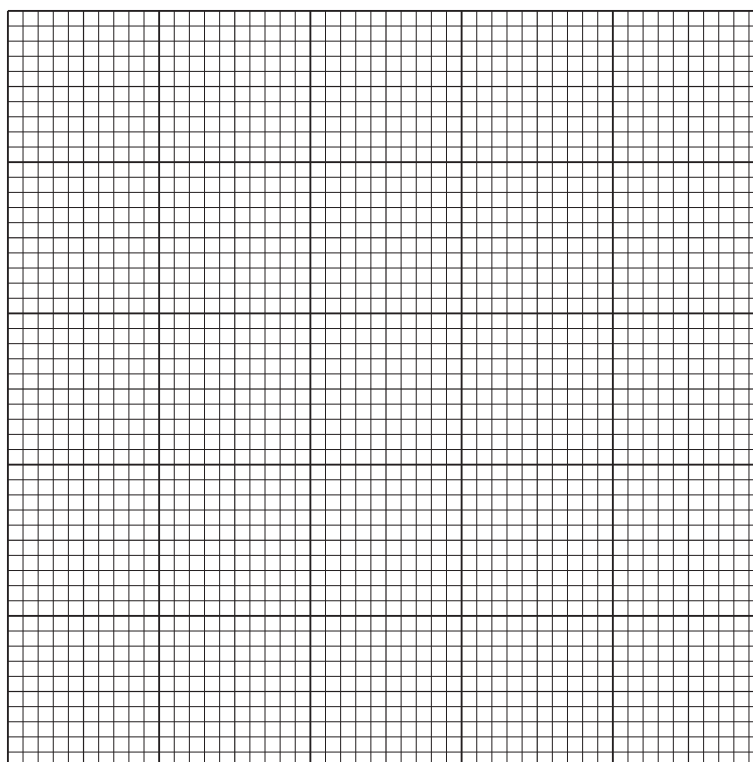

Fig. 1.3
(i) Plot a graph of the data in Table 1.2 on the grid in Fig. 1.3.
- (ii) Use your graph in Fig. 1.3 to determine the rate of reaction when the temperature is 37.5 °C.